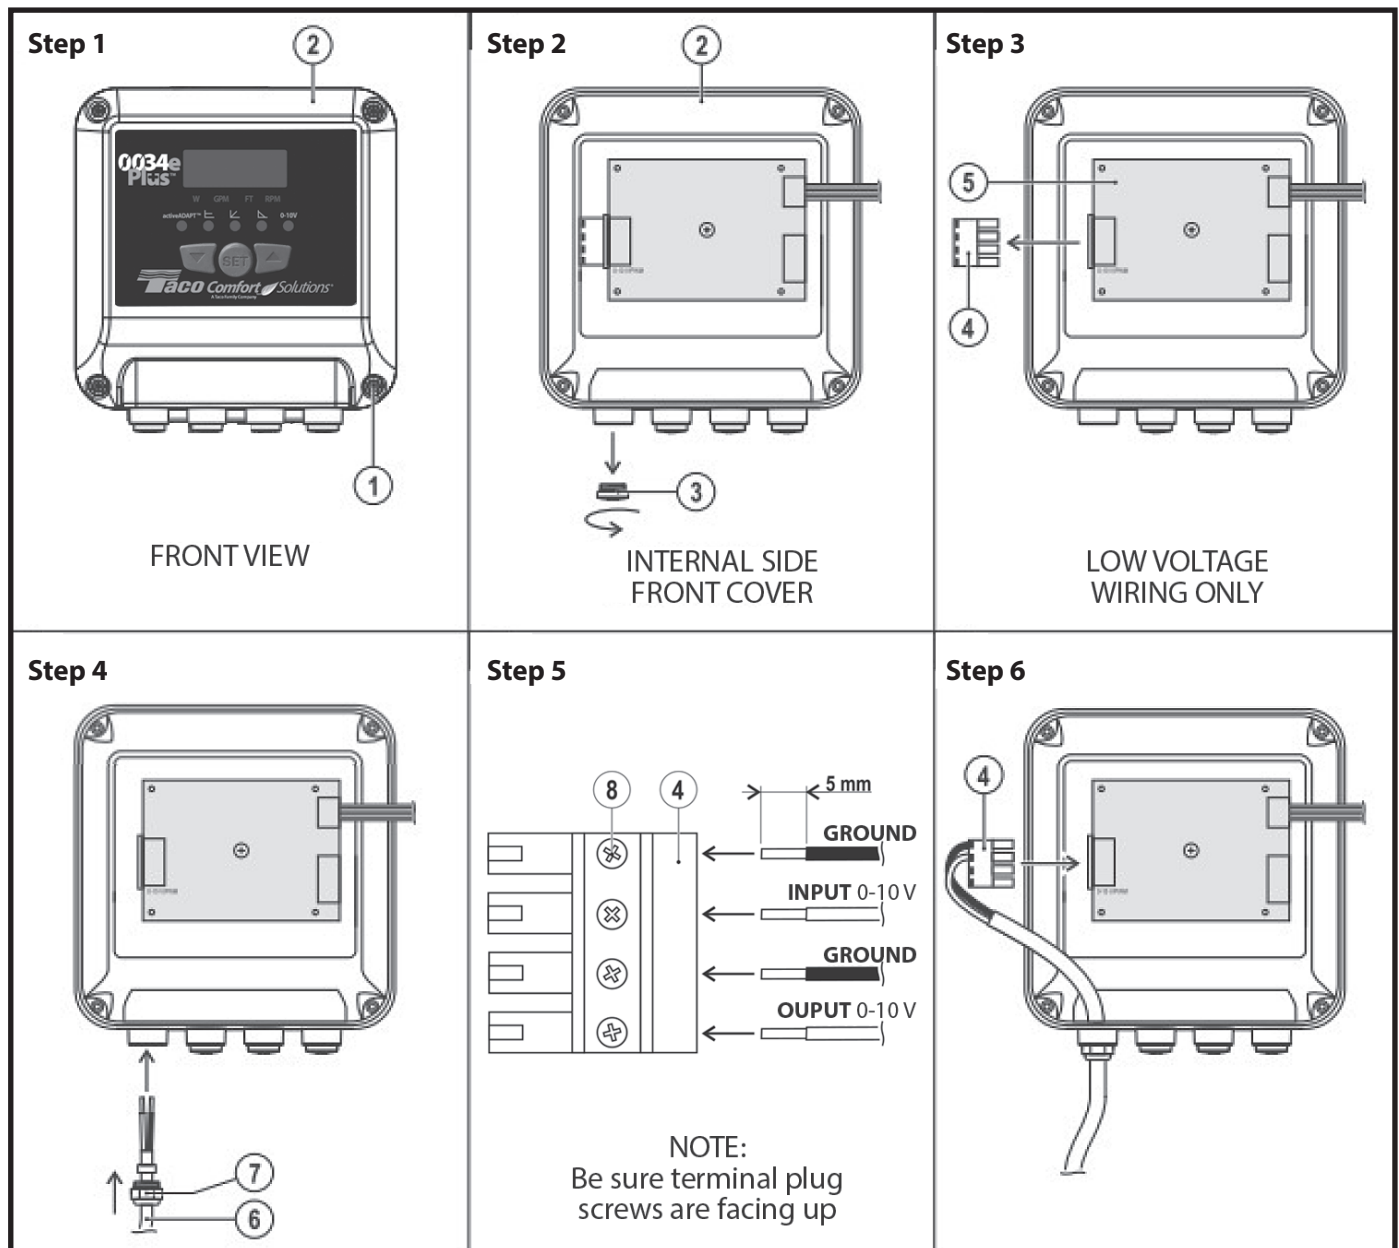

Figure 8 - External connection for 0-10V DC / PWM signal
1. Remove the four screws (Figure 8 - Ref. 1) attaching the control cover (Figure 8 - Ref. 2).
2. Unscrew a signal input / output cap (Figure 8 - Ref. 3).
3. Remove the green terminal plug (Figure 8 - Ref. 4) from the electronic board (Figure 8 - Ref. 5).
4. Insert the cable (Figure 8 - Ref. 6) in the cable strain relief gland M12x1.5 (Figure 8 - Ref. 7) provided in carton and screw it to the cover.
5. Strip (Minimum .25") the ends of the wires, insert them into the connector as shown (Figure 8 - Ref. 4) and fix them with screws (Figure 8 - Ref. 8).